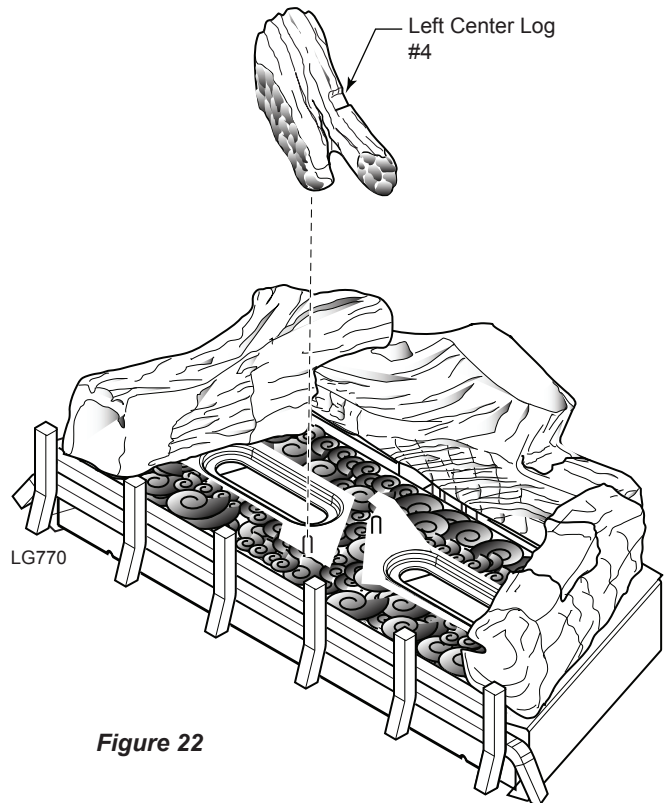

Figure 22
7. Align hole in bottom left center log #4 with pin on burner. *Figure 22*